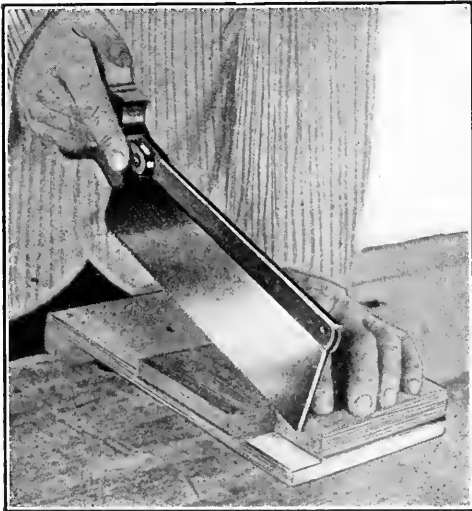
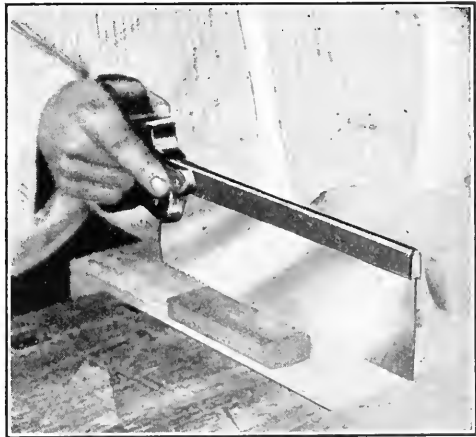

Fig. 79
Fig. 80
19. The Back-saw has a very thin blade to make a fine cut, and a back of metal to give the blade firmness. This saw is used like the cross-cutting saw (see page 22), but care must be taken lest the blade become bent. Fig. 78 shows a common use of the back-saw. Place the wood upon the bench-hook (see page 83), start the stroke as with the cross-cutting saw in the position shown in Fig. 79, and gradually lower the handle until the blade cuts the whole width of the piece (Fig. 80). Great care is necessary to cut exactly to the knife line. The back-saw can also be used as in Figs. 76 and 77, and to saw two ends to fit (see page 155). See *Mitre-box*, page 85.